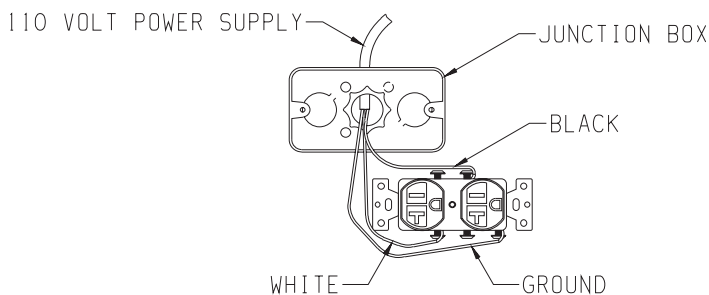

Figure 20
**NOTICE:** Junction box is to be located in the lower compartment of the fireplace and must be pre-wired at time of fireplace installation for use with blower assembly. A standard ON/OFF wall switch or SCV-1 variable speed control kit should be installed to activate power to the Junction Box and provide power for the operation of the blower assembly. It is recommended that installation of the wiring be performed by a qualified electrician. **See Figures 20 and 21.**
Attach black wire to one side of the receptacle and white wire to opposite side of receptacle. The ground wire should be attached to the green (ground) screw. **See Figure 20.**